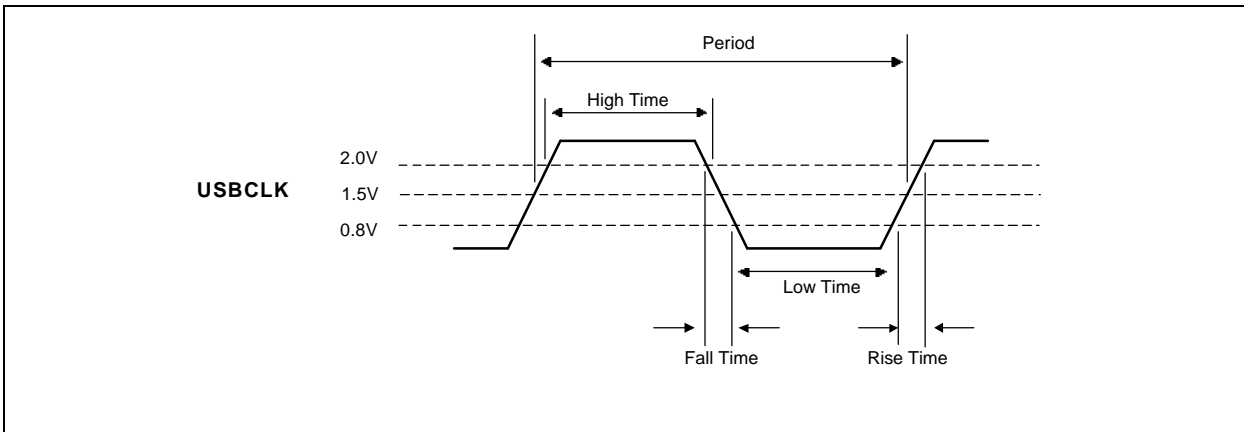

Figure 4-1. USBCLK Waveform
1. tUKH is measured at 2.0V as shown in Figure 4-1.
2. tUKL is measured at 0.8V as shown in Figure 4-1.